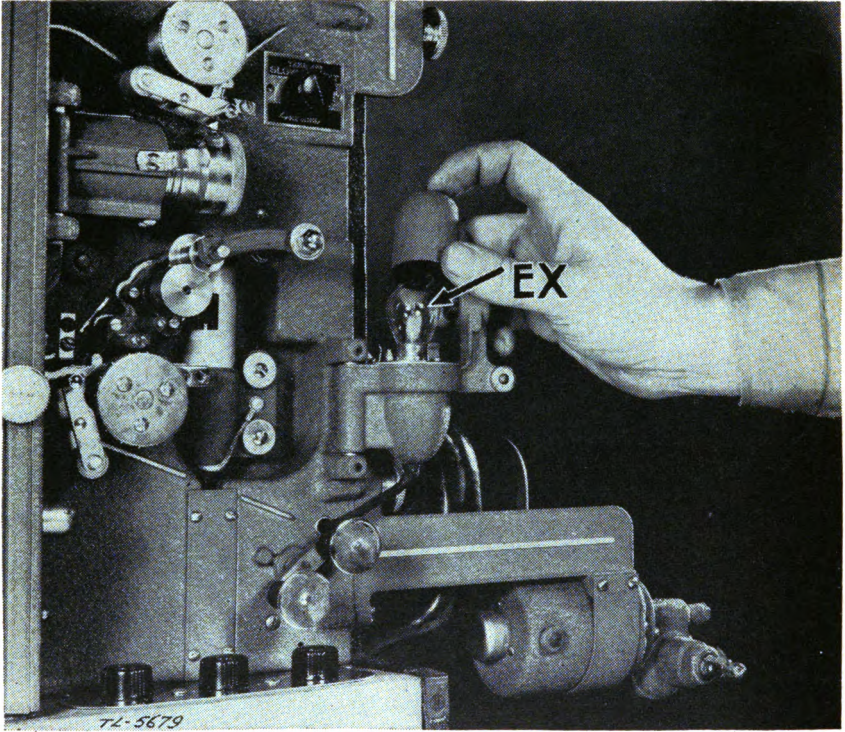

FIGURE 67.—Removing R. C. A. exciter lamp.
(2) To replace the exciter lamp (fig. 67), lift off metal cover and unscrew lamp. Install new lamp and replace cover.